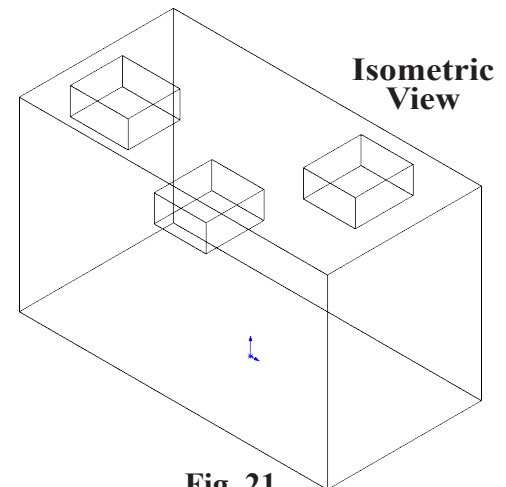

Fig. 21
Step 10. Confirm Cut-Extrudes. Click **Wireframe** on the View toolbar, then switch back to **Shaded With Edges**, Fig. 21.